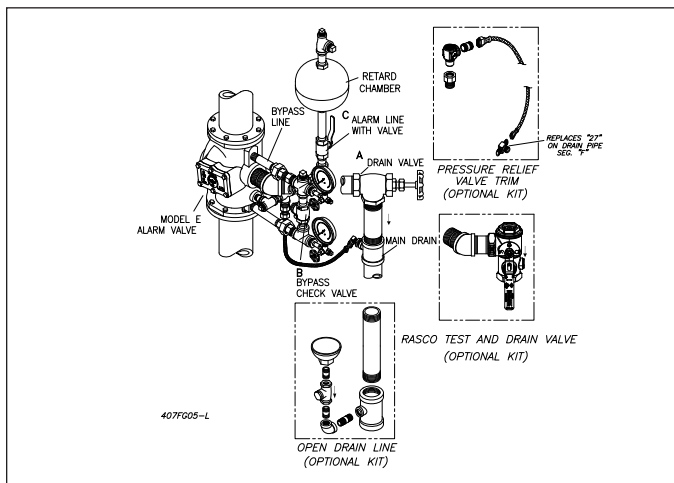
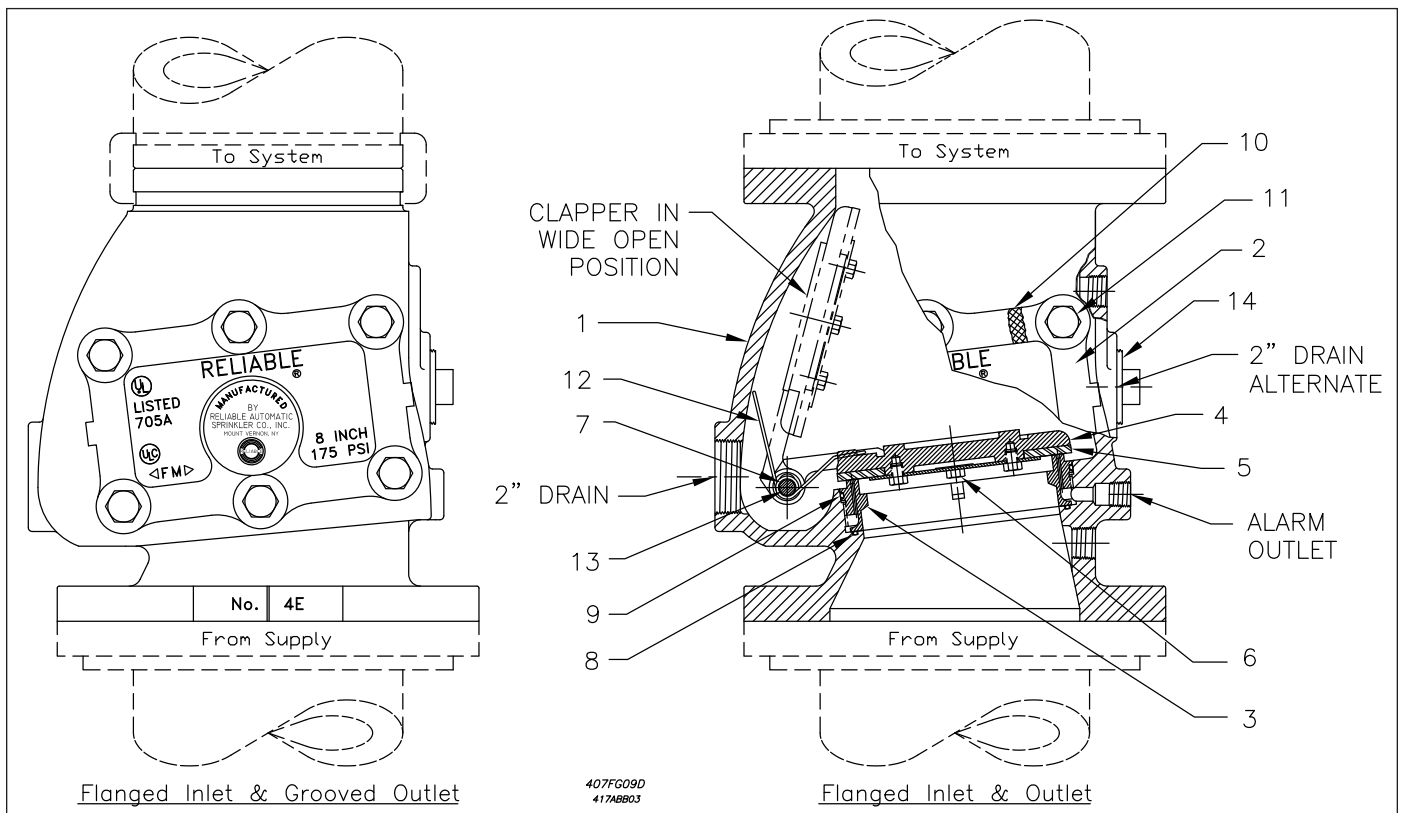

Fig. 7 - E3 Vertical Trim
Fig. 9
The normal position of the alarm valve parts is shown in Fig. 9. Flow of water in the system piping resulting from the discharge through one or more fused automatic sprinklers causes the Clapper (4) to rise off the Grooved Seat (3) and permits water from the supply piping to enter the system.
1. The Bypass Line, Fig. 7, with Check Valve (B) allows surges to pass from the supply to the system side of the alarm valve clapper without lifting the clapper off its seat. Repeated surges build up an effective excess pressure in the system which steadies the clapper and prevents false alarms. Should a heavy surge force the clapper off its seat and allow water to flow into the alarm line, the Model E1 Retard Chamber comes into action.
Tests (see Figs. 7 & 8)
1. Open Valve (A), Fig. 7, to drain which should flush any loose matter off alarm valve seat. Close valve and observe if water flow ceases.
- 2) Clapper Rubber Facing and Clamping Ring Assembly: Item 5, Figure 9.
- 3) Seat "O"-Rings: Items 9 and 10, Figure 9.
- c. In either case (a or b), drain system by opening Valve (A), Figs. 7 & 8 to drain. Remove Cover (2), Fig. 9, Shaft Pipe Plug (14), Hinge Pin (8) and Clapper Assembly (4).
- 2) Remove "O"-Rings, Items 9 and 10, Fig. 9. Thoroughly clean "O"-Ring grooves and sealing surfaces. Inspect for damage or foreign material.
- 3) Replace Cover (2) being sure Cover Gasket (11) is in position and bolts and nuts are securely tightened.
- 4) Close Drain Valve (A), Fig. 7. Slowly open main control valve. Be sure Valve (C) and the main control valve are properly supervised in the OPEN position.
False alarms are generally caused by pressure surges in the water supply and can occur if the system loses its effective excess pressure (see "Operation"). Similar readings on the system and supply pressure gauges are a visual indication that the excess pressure condition has been lost. One or more of the following will contribute to this loss of pressure – Leaking system drain valves, leaking at the Alarm Valve Seat (3), Fig. 6, leaking between the Clapper (4) and the Facing (5), or leaking at the Bypass Check Valve (B), Fig. 7.
Service kits are available for routine servicing of the valve (reference Figure 9). Service kits for the Model E Alarm Check Valve include the following components: